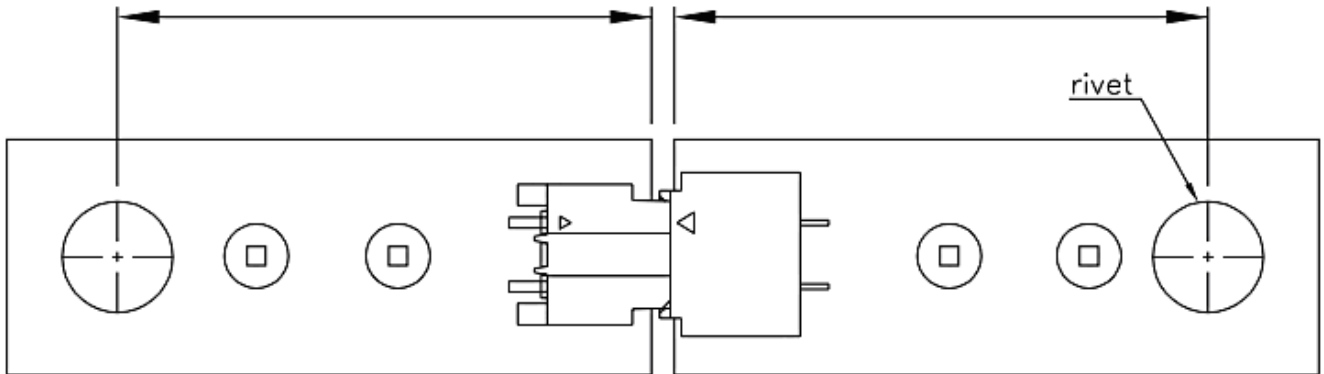

Fig. 3-4-1. (Ref.)
- We deeply suggest using rivet system etc. Don't mating only status.(Fig.3-4-1). If mating only, that might cause the transformation of terminal and housing etc.